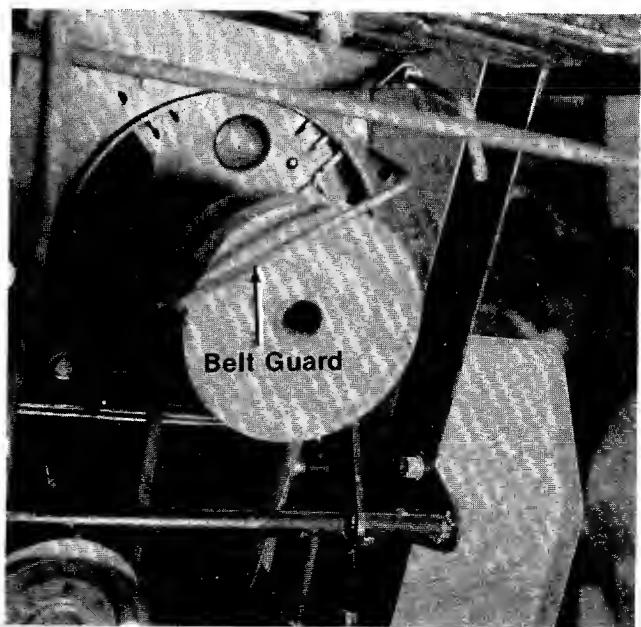

FIGURE 16.
To adjust the toe-in, loosen the hex jam nut, remove the elastic lock nut, lift the tie rod end out of the hole in the steering arm and screw the tie rod end in or out as necessary. See figure 16. Reassemble the tie rod end after the correct alignment is made.
4. Swing the belt guard forward towards the front of the tractor. See figure 16.